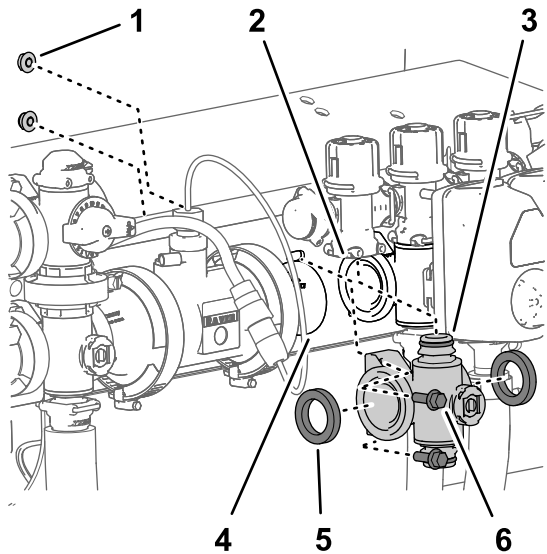

**Figure 121**
- Remove the 2 flange clamps that secure the section-manifold valve to the flanges of the adjacent components (Figure 121).